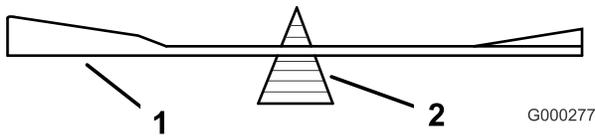

Figure 88
2. Check the balance of the blade by putting it on a blade balancer (Figure 88). If the blade stays in a horizontal position, the blade is balanced and can be used. If the blade is not balanced, file some metal off the end of